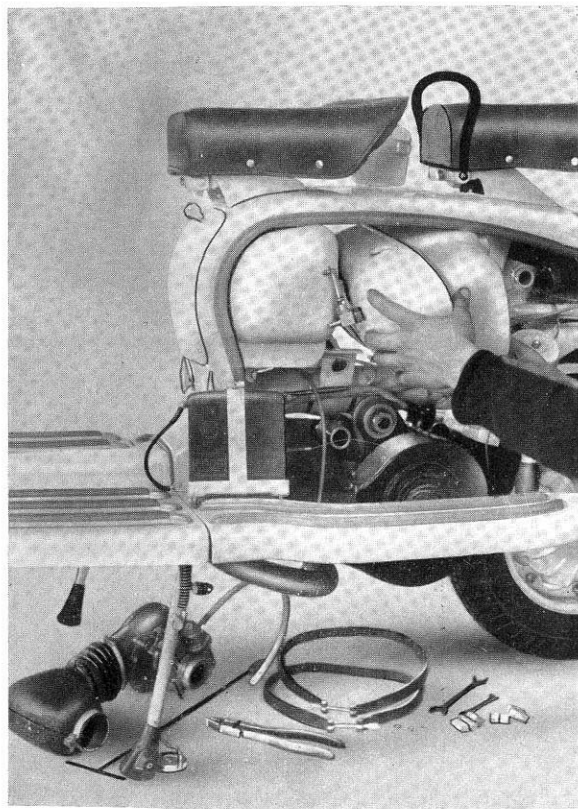

Fig. 35
- 59 To remove lower buffers, remove trailing link pin (19mm spanner), unscrew grease nipple under the lever, remove screws fixing buffer (10mm spanner) remove buffer with the aid of a screwdriver. See Fig. 35.